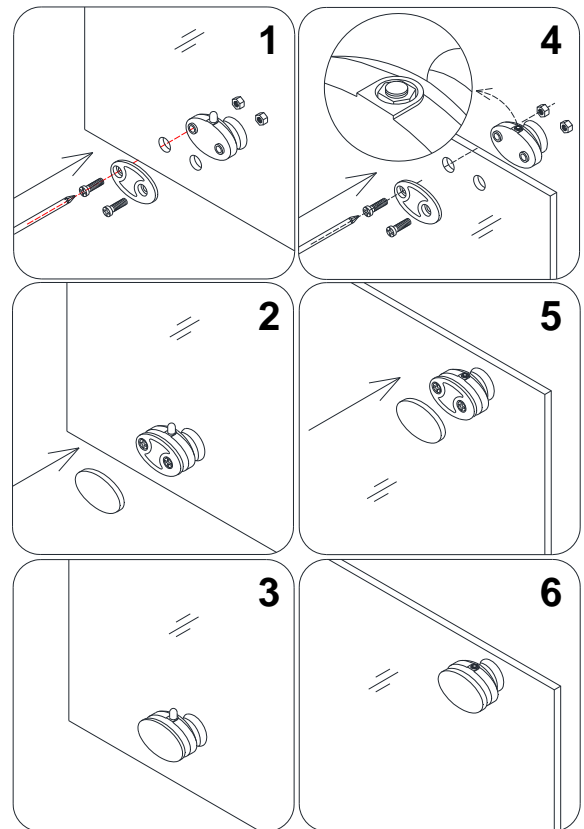

Fig. 11
NOTE: Glass Door (04) comes with preinstalled Wheel assemblies (17). If not, please refer to (Fig. 11) for detailed installation.
12. Fasten the top and the bottom **Wheel assemblies (17)** to the **Glass door (04)**. The top wheels can adjust the door level with the adjustable bolt and lock nut. The bottom wheel has a press button to fix the wheel on to the bottom **Guide rail (03)**.
See Fig. 11 for details.